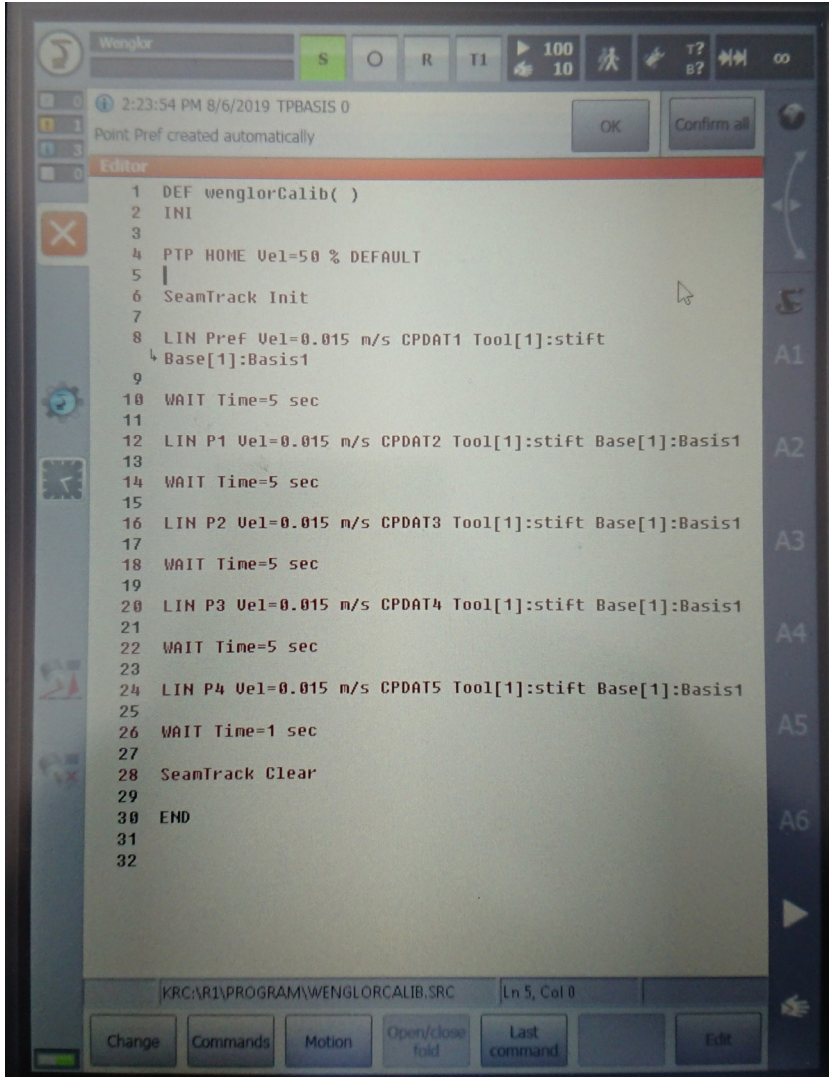

Fig. 18: Calibration program example in KUKA controller
2. Write a simple calibration program in the robot controller as demonstrated in the screenshot in Fig. 18 where Pref, P1, P2, P3 and P4 are the points to be taught as described below. Tool[1] and Base[1] are the tool coordinate system and base coordinate system as illustrated in figure Fig. 17.